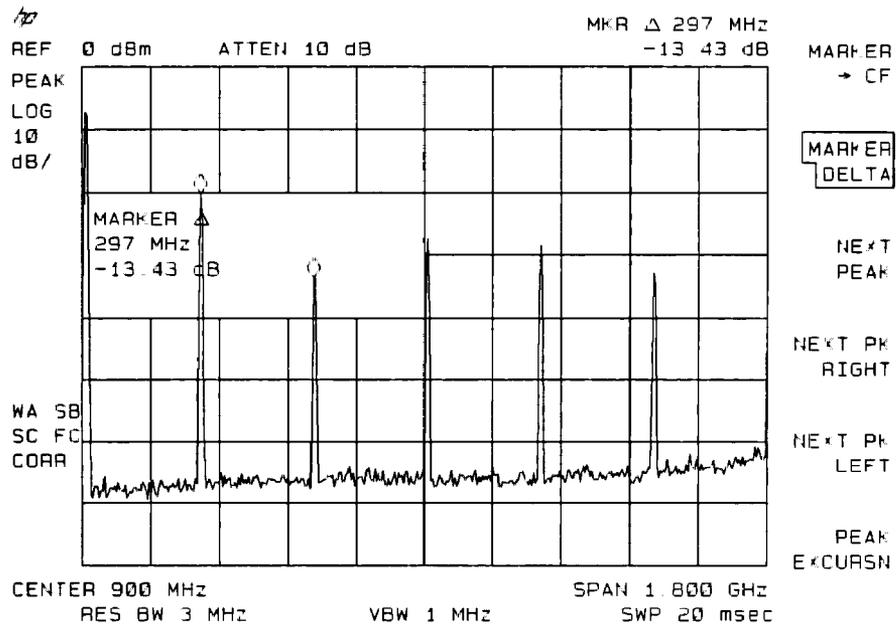

Figure 6-12. Using the Marker Delta Function
4. The amplitude and frequency difference between the markers is displayed in the active function block and in the upper-right corner of the screen. See Figure 6-12.